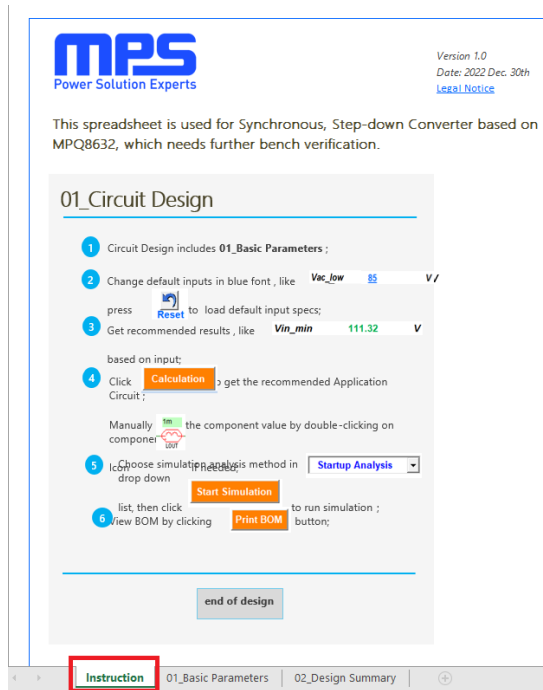

Figure 20: Instruction Sheet
3. Open the spreadsheet. There are three sheets in the design spreadsheet. The instruction sheet is a brief guide to the steps and basic information about the design spreadsheet (see Figure 20 on page 17).